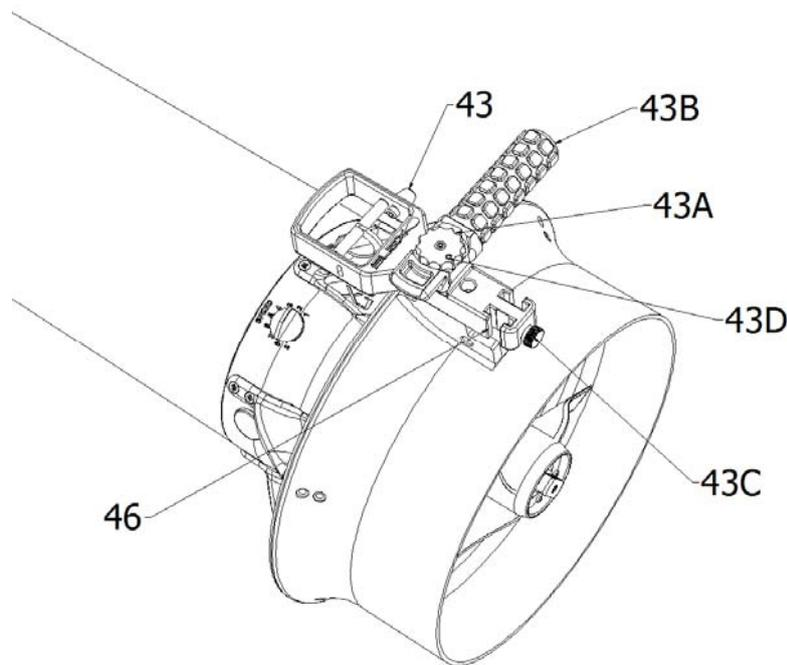

Figure 11
In the control device (fig.11) you can find:
The knob cruise control (43)(see fig.11), must only be used under the diver's maximum control. The knob, trigger or ADV ignition switch must be usable at all times to avoid any type of collision or driver dragging risks in hazardous areas.